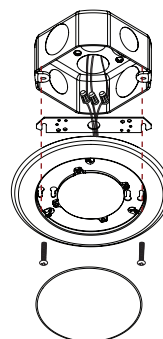

Figure 3
4. Mount luminaire to the junction box (bracket ordered separately, if needed: NLOPAC-4BKT-2) and screws through the keyhole slots. (Figure 3)